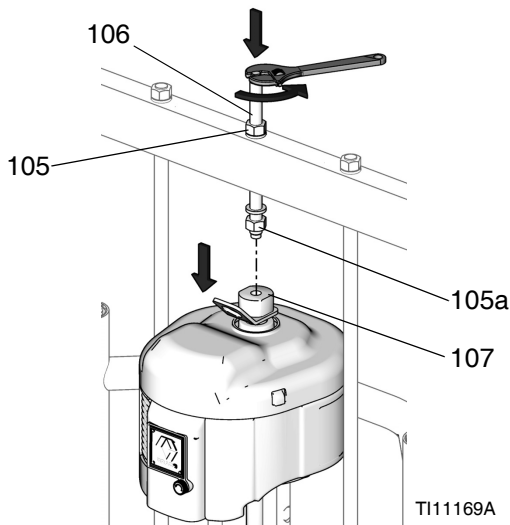

Fig. 24: NXT 2200-6500 with 55 Gallon Platen
- a. For *NXT 2200-6500 with 55 gallon platen (D200 3 in. and D200s 6.5 in. supply units)*: Loosen nut (105a) below crossbar. Use wrench to hold lift ring adapter (107) in place and loosen threaded rod (106) above crossbar with another wrench. See FIG. 24.